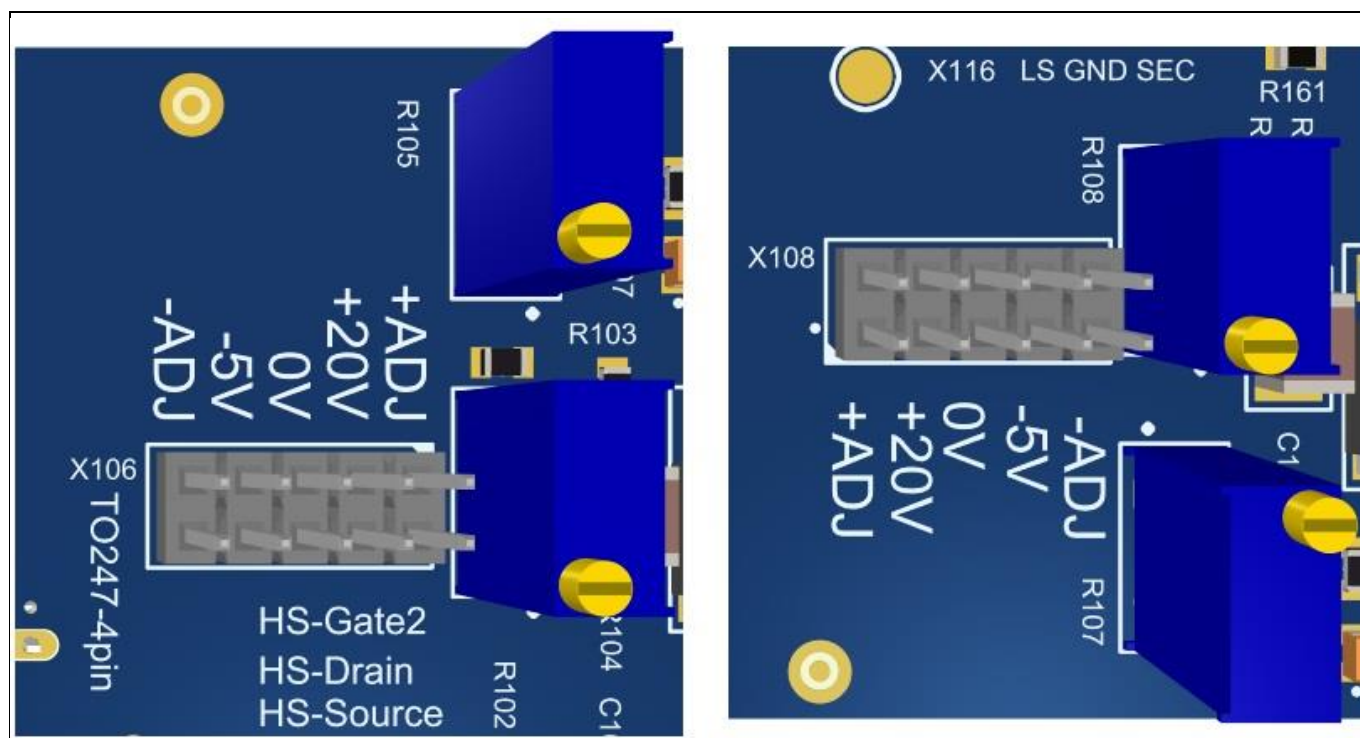

Figure 6 Jumper and potentiometer for voltage settings VCC2 and VEE2
The possible configurations for setting the driving voltages (VCC2 and VEE2) via two jumpers are visualized in Table 3 and Figure 6.
- 3.) Set the jumpers for driver voltages as described in Chapter 2.1.2, Table 3 and Figure 6, according to the needs of the corresponding drivers at the daughterboard
- 4.) If an adjustable powersupply has been selected, VCC2 and VEE2 has to be set by the potentiometer according to details described in Chapter 2.1.2, Table 3 and Figure 6